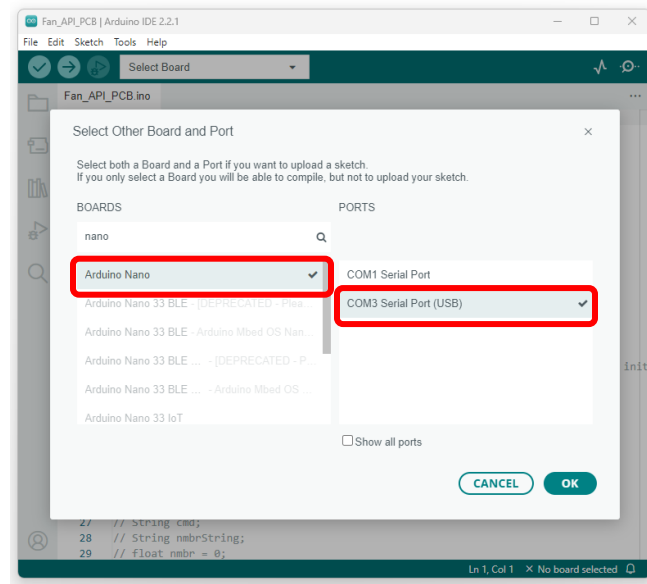

Figure 1.7 Select Other Board and Port Window in Arduino IDE
- Select *Arduino Nano* as the board and the corresponding serial port in the pop-up window as shown in *Figure 1.7*. Click *OK* to save the settings.